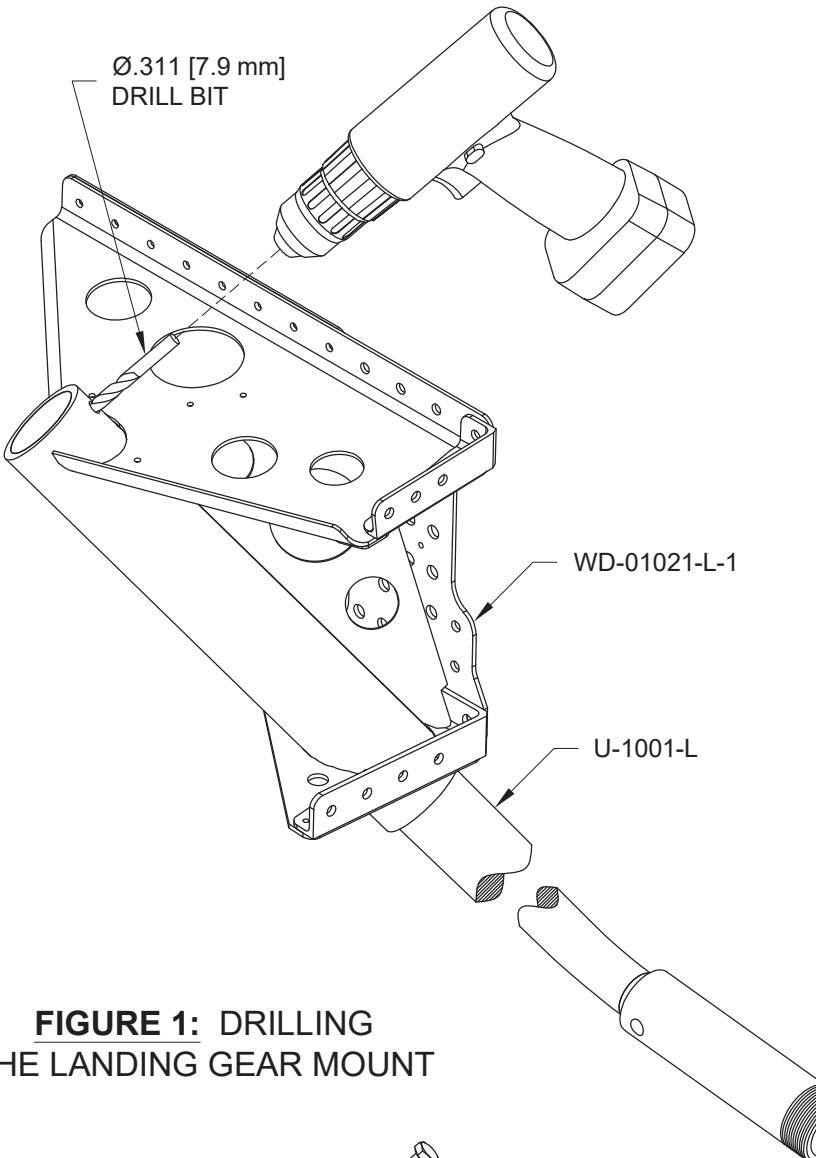

FIGURE 1: DRILLING THE LANDING GEAR MOUNT
Step 1: Slide the U-1001-L Main Gear Leg into the WD-01021-L-1 Left Landing Gear Mount as shown in Figure 1.
A hole is drilled through the upper end of the landing gear mount socket. The hole on the top side of the socket is drilled to final size while the corresponding hole in the bottom side is drilled undersize. Align the hole in the main gear leg with the hole in the top side of the socket. As shown in Figure 1, insert a Ø.311 (7.9mm) drill bit through the assembly until it "bottoms out" on edges of the smaller hole. (The side of the fuselage will prevent inserting the drill bit if it is already in a drill motor.) Now attach a drill motor and final-drill the smaller hole.